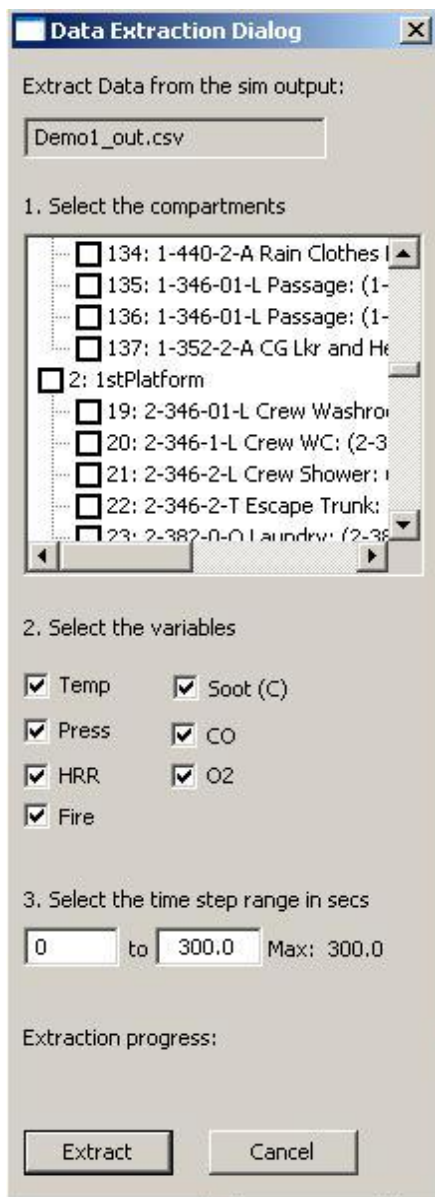

Figure 8-22 Data Extraction Dialog
Simulation dialog and the *Object State Editor* dialog are hidden and a new *Data Extraction* dialog as shown in Figure 8-22 pops up.
- a. First way is to click in the checkboxes of the tree in the data extraction dialog (Figure 8-22) to select or deselect the compartments.